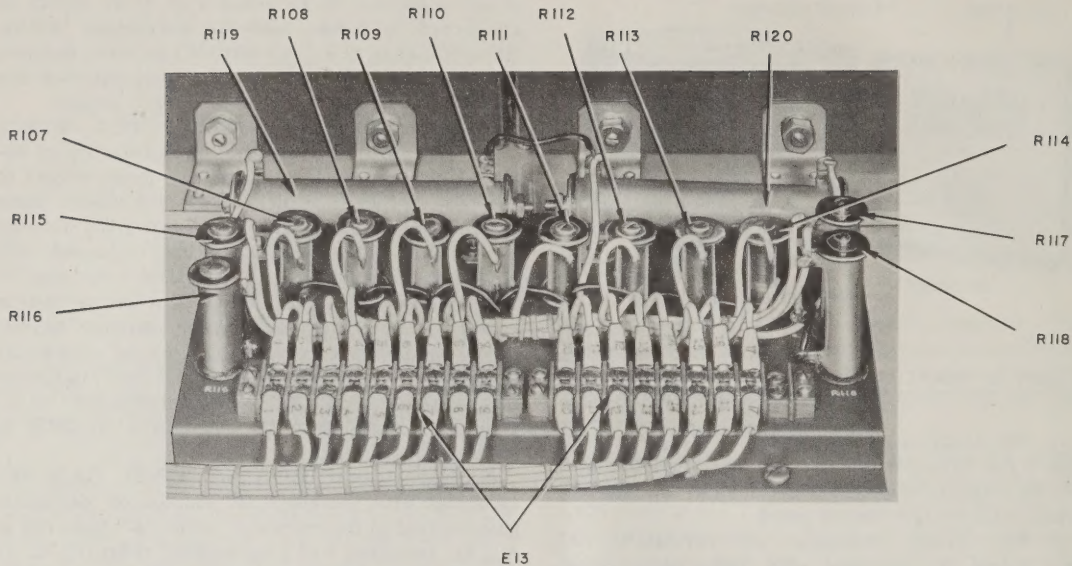

Figure 7. Amplifier loading chassis.
- (1) Loosen 24 captive screws on each compartment cover and pull the covers open.
- (2) Unscrew the knurled nut on each jack, and pull the associated jacks from the chassis.
- (3) Cut the tie wires that pass through the wing nuts.
- (4) Loosen the wing nuts and lockwashers that secure the two chassis locking collars to the chassis bracket. Lift the collars from the brackets, and permit the collars to fall away from the chassis.
- (5) Pull the chassis from the shelves in the test equipment.
- (6) To remove the amplifier loading chassis, unscrew 4 binding-head screws and disconnect 17 cable leads from terminal block E13 on the chassis (fig. 7).